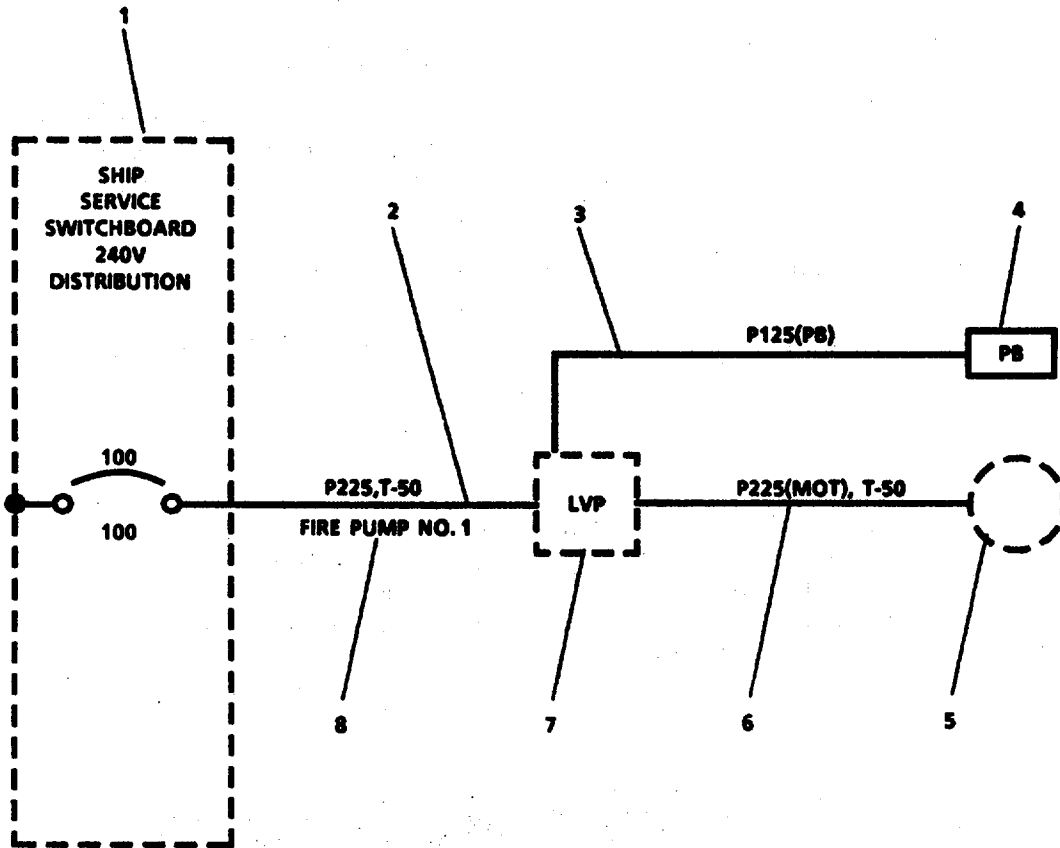

FIGURE 3-149. *Fire Pump No. 1 Power Distribution.*
- b. Remove tag and connect electrical power cable (P224MOT) (T-9) (2).
- c. Remove tag and connect electrical power cable (P244) (T-9) (1).
**3-163. Repair Fire Pump Number 1 Power Distribution. (Figure 3-149).**